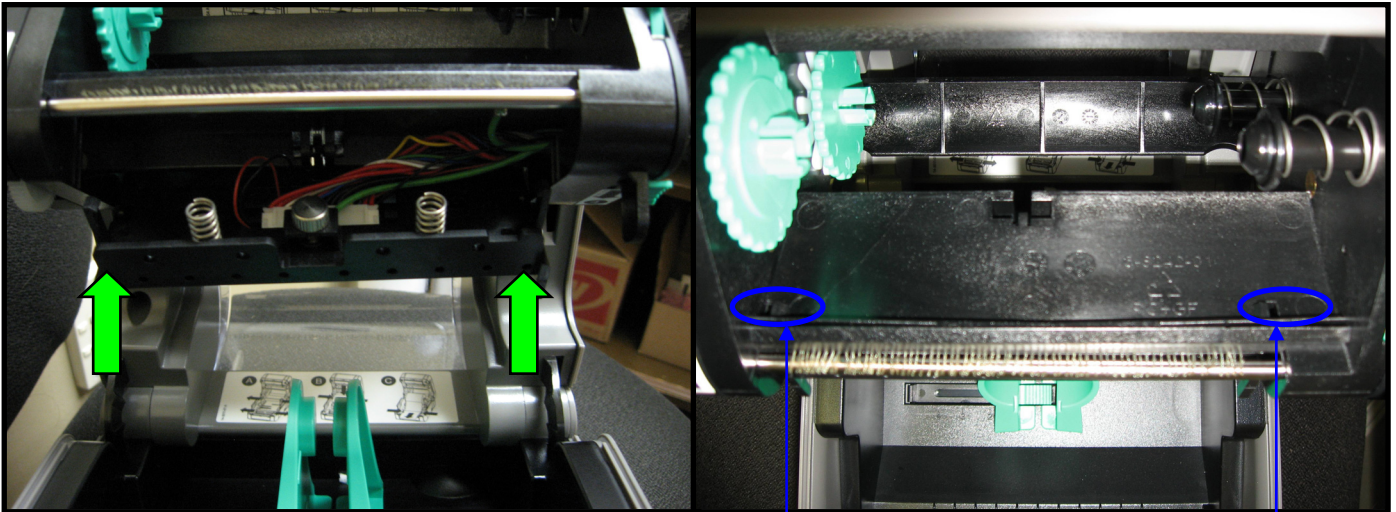

Figure 22
22.) Align the tabs and push up on the printhead mech until it snaps back into place (Fig 22)